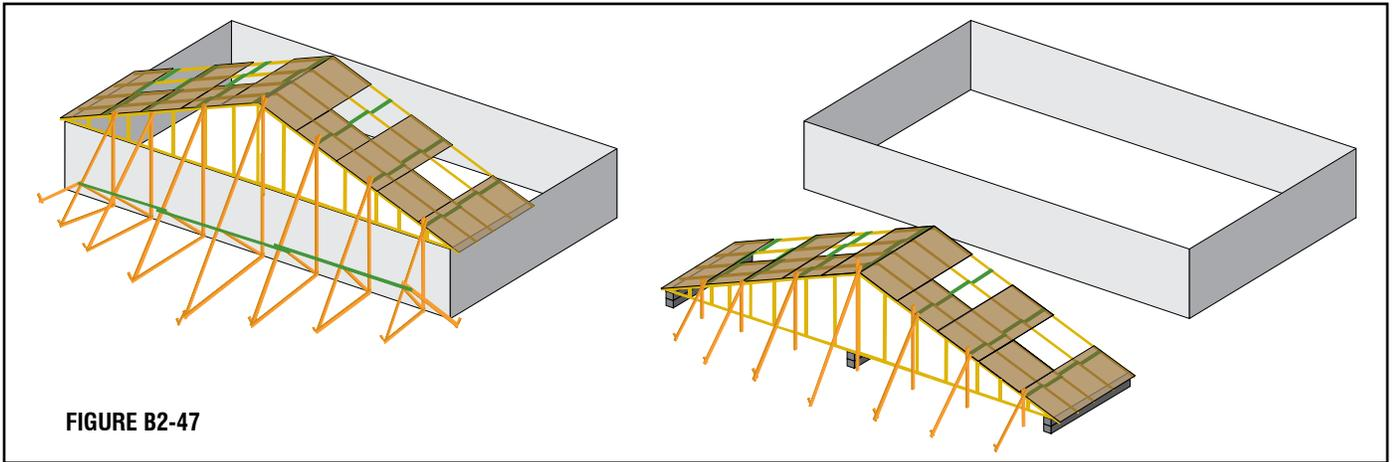

FIGURE B2-47
- Build the First Five Trusses Into a Stable Base Unit:** Assemble the first five Trusses with all Structural Sheathing, restraint and Bracing. Some installers lift the first five Trusses one at a time and restrain, brace and sheath as they go. Other installers build the base unit on the ground and lift it into place. Either way, this makes the installation process much easier, accurate and safe (see Figure B2-47).